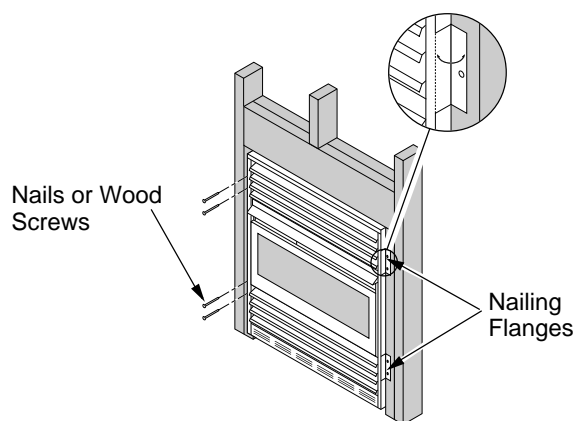

Figure 11 - Attaching Fireplace to Wall Studs
7. Bend four nailing flanges on outer casing with pliers (see Figure 11).